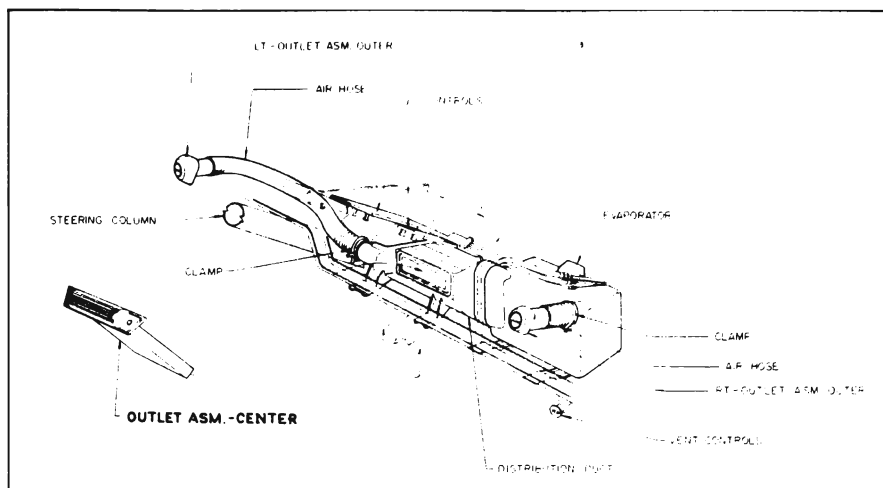

Figure 11-45—Air Conditioner Outlets—4700 Series
9. Air Outlets. The air conditioner air outlets are entirely separate from the heater outlets and are located as shown in Figures 11-45 and 11-50.